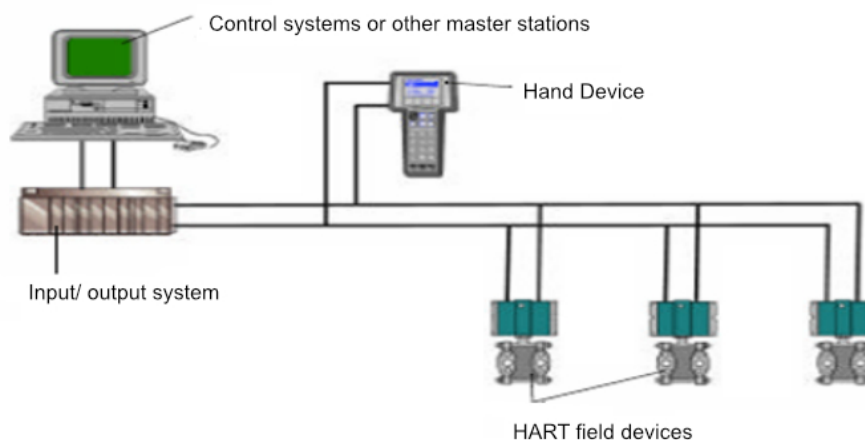

Figure 5.2 Multi-Point Connection
- **Multi-Point Connection (Figure 5.2)**